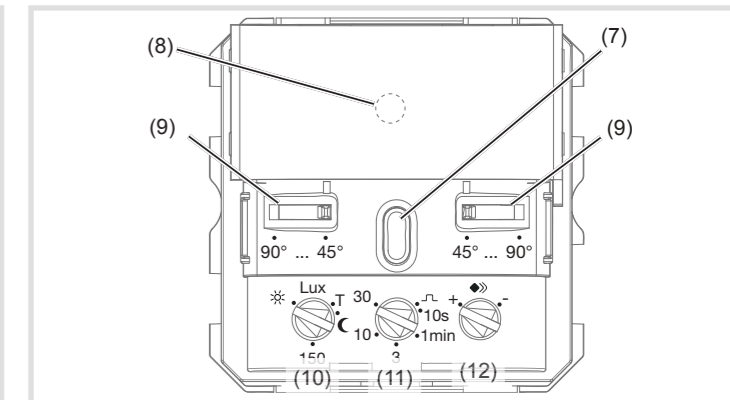
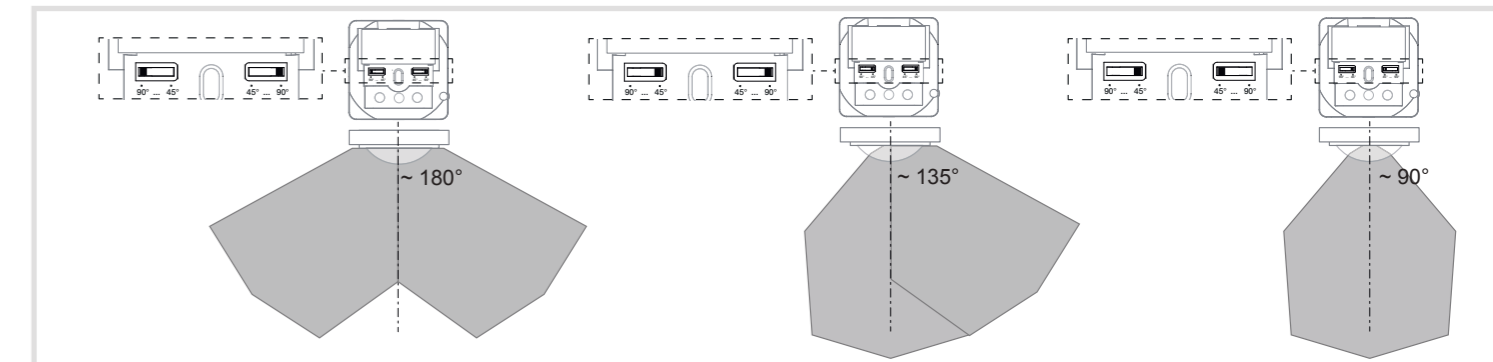

Figure 9: Operation and adjustment elements
Figure 10: Setting the detection angle
Overview of operation and adjustment elements (figure 9)
The detection angle can be restricted for the right side and for the left side via each adjuster (figure 9, 9) between 45° ... 90° for each adjuster. This can be carried out on the device. Thus the detection angle can be between 90° and 180° (Fig. 10).
- Set the response brightness potentiometer (Fig. 9, 10) to Test (T).
■ Turn the response brightness potentiometer (Fig. 9, 10) to the desired position.
■ Turn the delay time potentiometer (Figure 9, 11) to the desired position.
■ Turn the sensitivity potentiometer (Fig. 9, 12) to the desired position.
■ Turn the response brightness potentiometer (Fig. 9, 10) to Test (T).